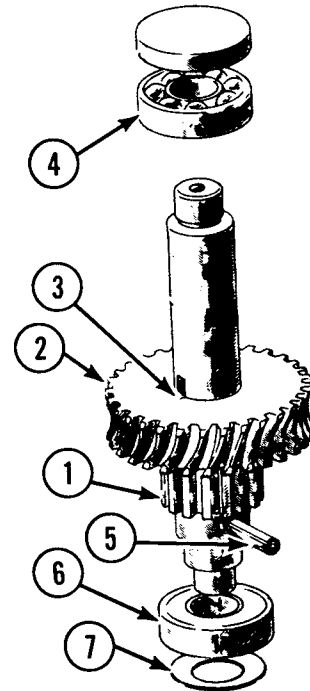

Fig. 3-20
- D. Remove worm shaft gear (14t) (1, Fig. 3-20).
- E. Remove worm gear (29t) (2, Fig. 3-20).
- F. Remove key (3, Fig. 3-20).
- G. Remove upper bearing (4, Fig. 3-20).
- A. Install key (3, Fig. 3-20).
- B. Install worm gear (29t) (2, Fig. 3-20) with the hub down.
- C. Install worm shaft gear (14t) (1, Fig. 3-20).
- D. Install spirol pin (5, Fig. 3-20).
- E. Install lower ball bearing shielded side towards gear (6, Fig. 3-20).
- F. Install upper ball bearing shielded side toward gear (4, Fig. 3-20).
- FF. If the worm gear drive seems noisy, it may not be properly engaged with the worm. Adjustment is made by turning screw (1, Fig. 3-39) after loosening nut (2, Fig. 3-39). The worm gear shaft is supported on the cup spring washer (7, Fig. 3-20). The shaft can be raised or lowered to correct the worm and worm wheel contact. The adjustment will be most effective if made when the mixer is loaded. Loosen or tighten screw gradually until best sound level is reached.